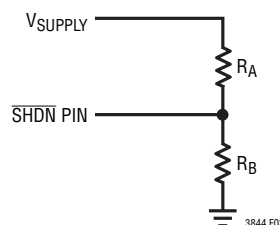

Figure 3. Undervoltage Lockout Circuit
When laying out the printed circuit board, the following checklist should be used to ensure proper operation. These items are illustrated graphically in the layout diagram of Figure 3.
- Locate the V_{CC} and BOOST capacitors in close proximity to the IC. These capacitors carry the MOSFET driver's high peak currents. Place the small-signal components away from high frequency switching nodes (BOOST, SW and TG). In the layout shown in Figure 3, place all the small-signal components on one side of the IC and all the power components on the other. This helps to keep the signal and power grounds separate.